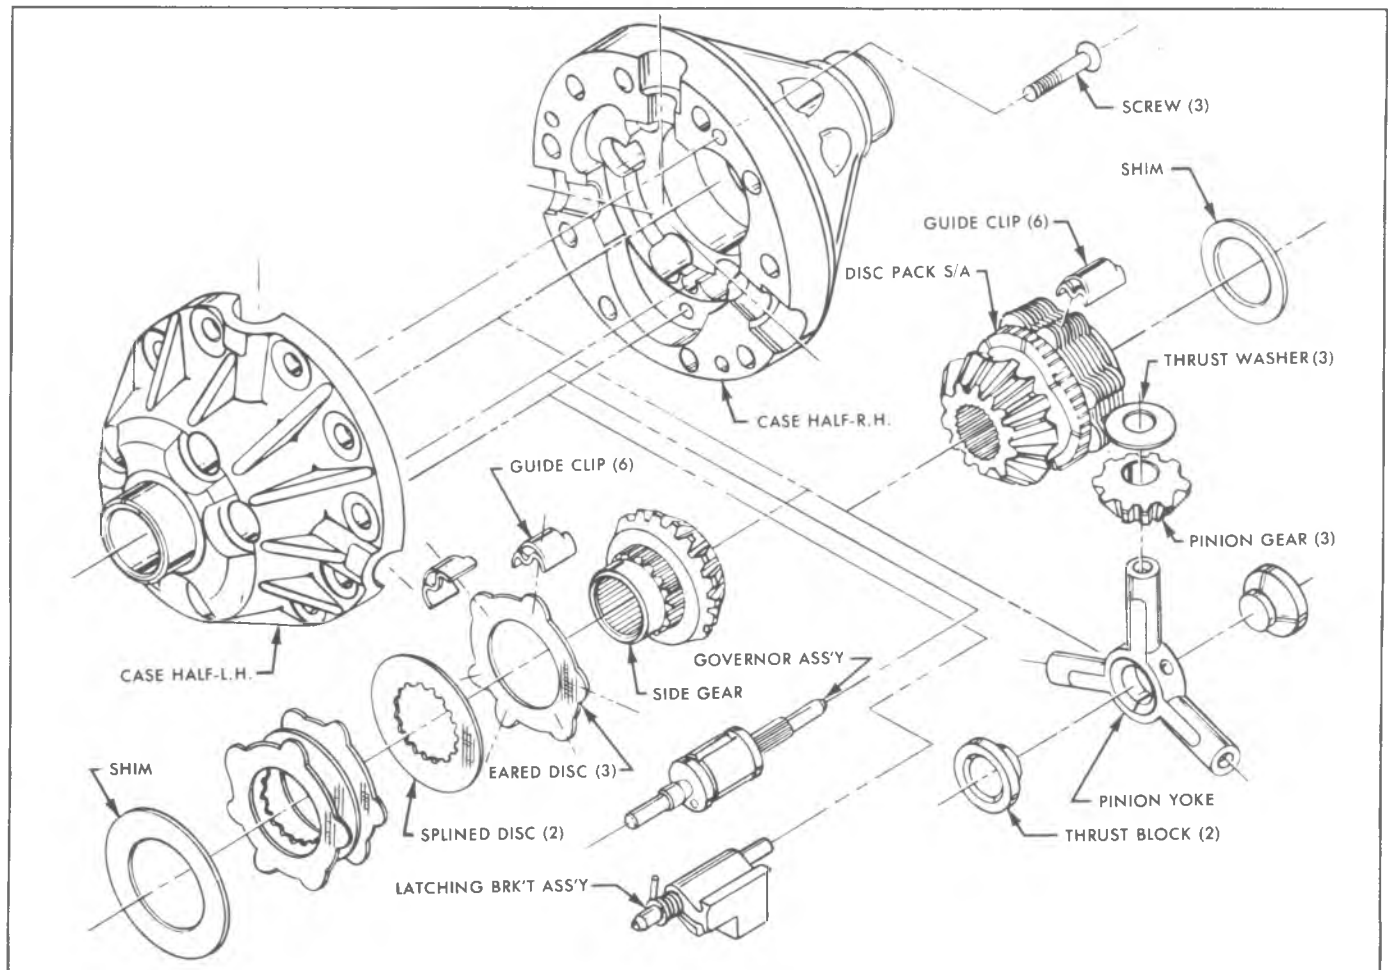

Fig. 4B-2H-3/4 Ton Unit
1. Note position of governor and latching bracket assembly, Figure 4B-4H. Remove ring gear and side bearings following procedures established for the standard differential.
2. Using bushing puller tool No. J-26252, remove governor assembly and latching bracket by pulling the retaining bushings as shown in Figure 4B-5H. Pull the